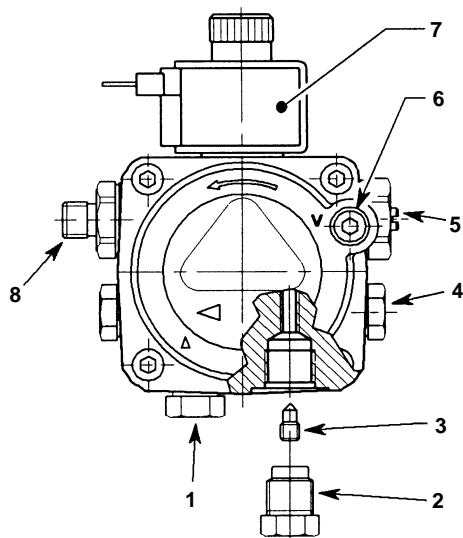

Fig. 7 - RDB pump
See Fig. 7
- 1 The fuel pump is supplied for use with a single pipe fuel supply system. For use on a two pipe supply system, it is necessary to fit the By-pass screw (see Fig. 7) into the tapping in the return port.